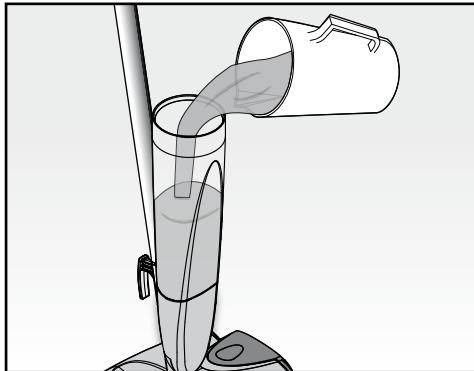

Fig. 5
- Fill the tank (M) with water (Fig. 5) and close it with the special cap (L).
- Plug the appliance into the power socket and enable the steam function by pressing the steam key (D); the relevant indicator light will switch on (Q).